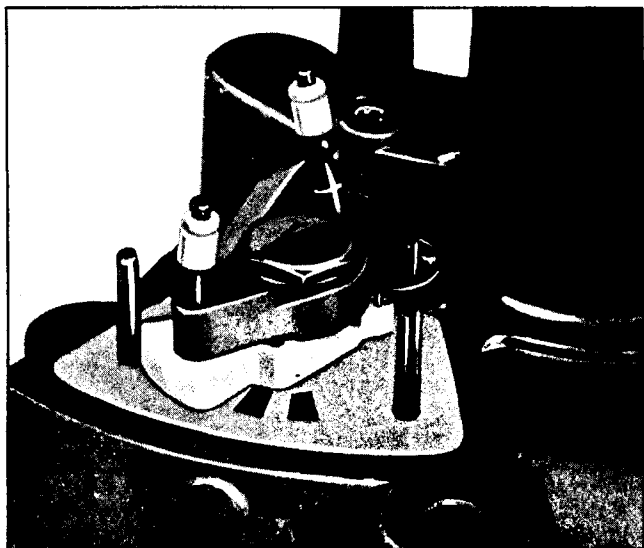

Fig. 4-21 Installing Distributor Arm
5. Install distributor valve bushing, washer, distributor arm assembly, washer and secure with screw (Fig. 4-21). Tighten screw to 12 lb. in. torque.